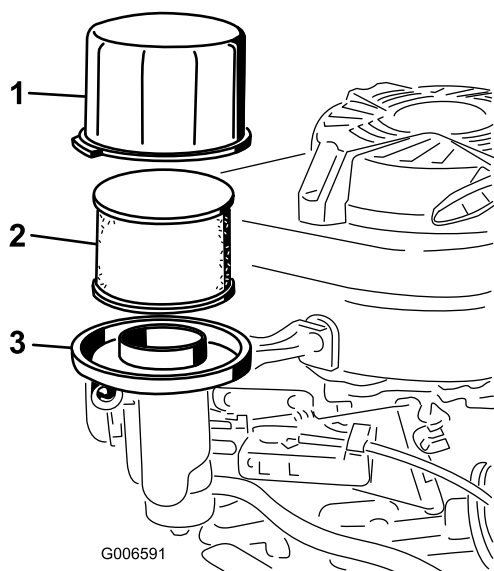

Figure 27
3. Remove the cover and clean it thoroughly (Figure 27).
4. Remove the foam pre-filter from the paper filter (Figure 27), and replace the paper filter if it is excessively dirty.